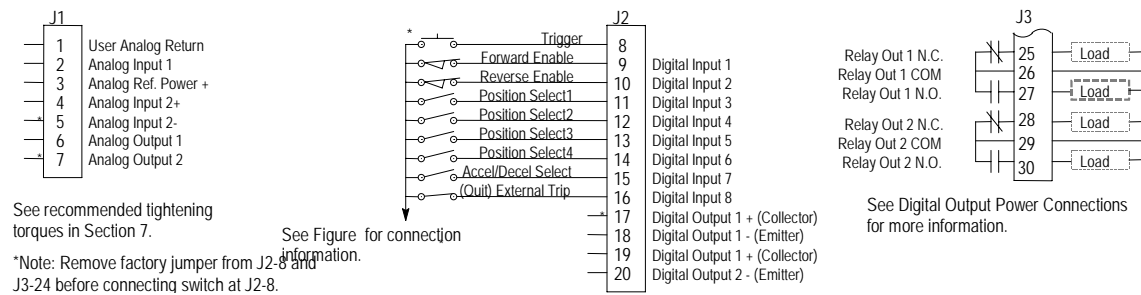

Figure 2.
Step 1: To use the preset position feature you will need to first connect the drive as shown in figure 2.